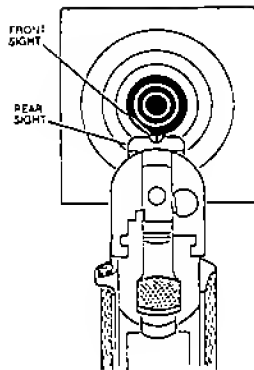

FIGURE 5—AIMING
3. Grasp pistol by stock and, with index finger resting along the outside of trigger guard, take aim. Aim by aligning target with front and rear sights. (See Figure 5). After identifying your target and seeing that it is clear to shoot, focus on the front sight. Be sure you have a safe backstop. **THINK! What you will HIT if you MISS the target?**